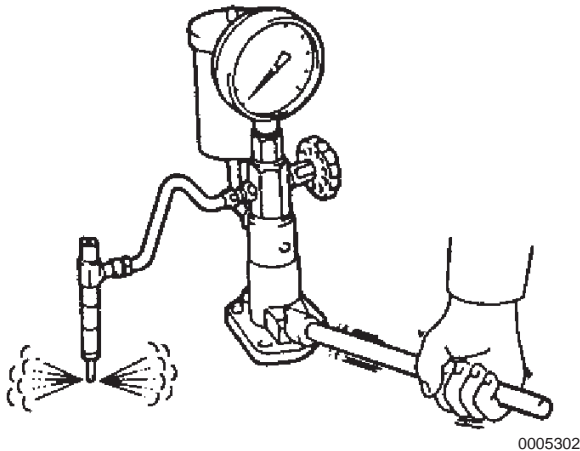

Figure 6-40
5. Slowly pump the tester handle and observe the pressure gauge (**Figure 6-40**).